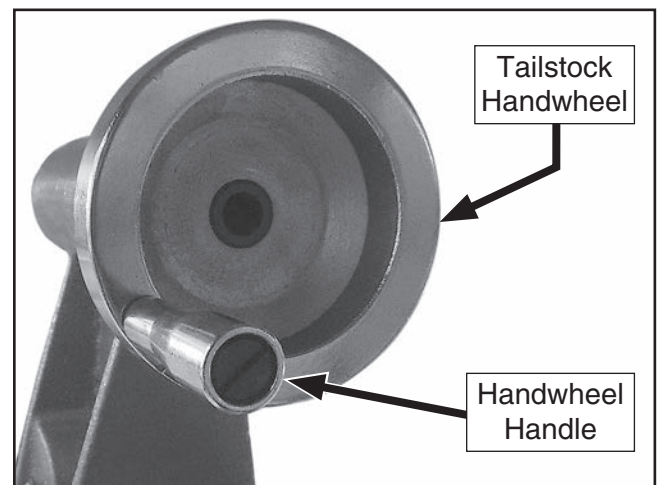

Figure 13. Tailstock handwheel handle installed.
3. Use a flathead screwdriver to install handwheel handle into tailstock handwheel (see **Figure 13**).